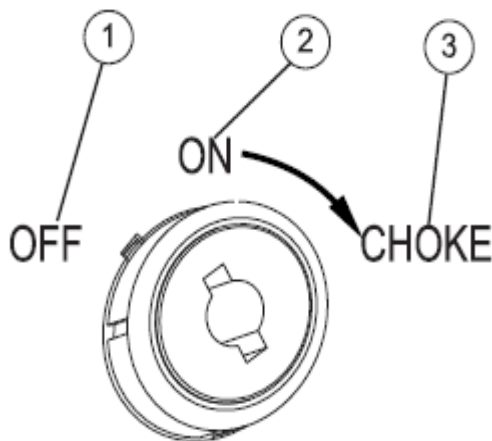

Figure-8 Off / On / Choke Positions
- \* Turn the 3-in-1 switch the off/On/Choke switch to “CHOKE” (1)
- \* **See Figure-8.** When engine starts, rotate OFF/ON/CHOKE dial to “ON” (2). Choke operation is reduced as OFF/ON/CHOKE dial is rotate towards “ON”.